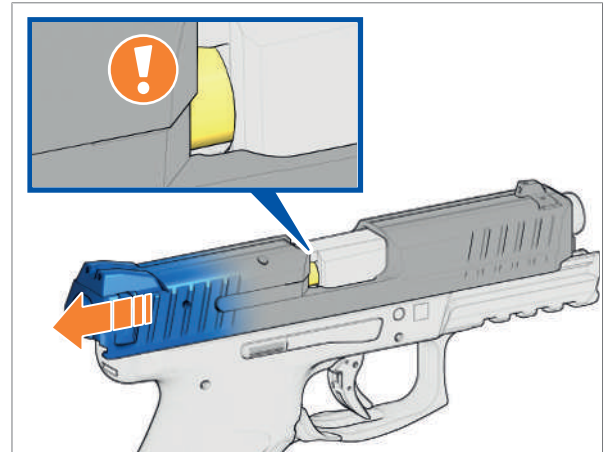

Fig. 54: Pull slide back
1. Pull the slide back until you can tell whether there is a round in the chamber (*Fig. 54*).